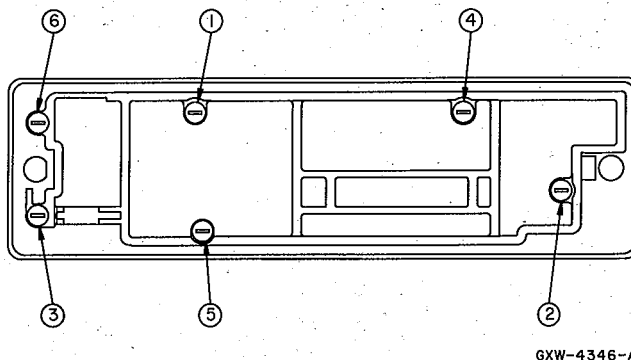

Figure 9. Control Head Assembly Screw Sequence
- (5) Remove the PC board from the internal spacer. The PC board "snaps" into and out of the spacer.
- (6) Snap the new PC board into the internal spacer. Before you press the keypad into the board, make sure that the conductive pads in the board and the keypad are clean and free of any foreign material.
- (7) Assemble the new PC board, internal spacer, and keypad onto the front panel and install the six screws in the sequence shown in Figure 9.